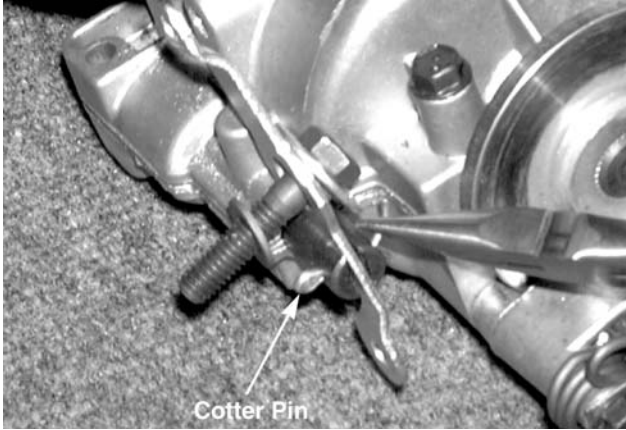

Figure 8-56.
2. Remove the cotter pin securing the shift lever to the shift fork assembly using needle nose pliers. See Figure 8-56.